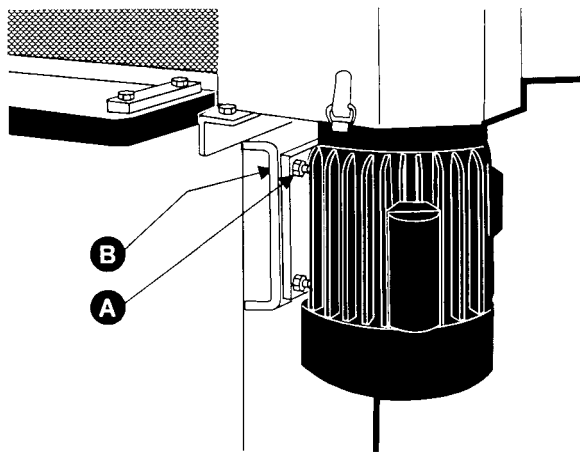

FIGURE 9
5. If the sanding belt left to right is not parallel with the steel platen, then the motor is not adjusted properly. Loosen the motor mounting screws (A), Figure 9, and adjust with the two jack screws (B).